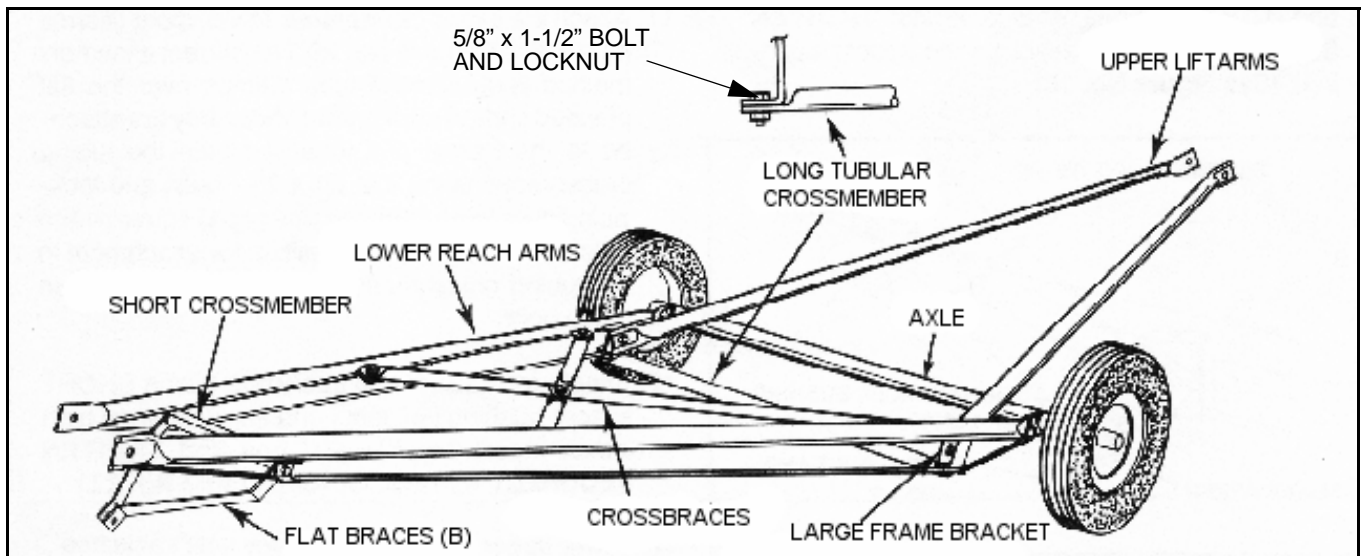

Figure 3.28 MK Flex 71'
- ➔ 2. **71'**: Attach long tubular crossmember to bottom of large frame brackets (Figure 3.28), with two 5/8" x 1-1/2" bolts and locknuts.